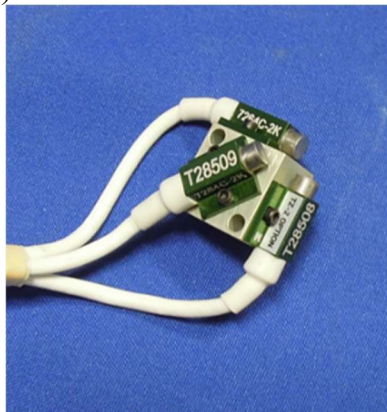

Figure 5-36. Remove three accelerometers from the Tri-Pack Block (SA572-S80M)
- 5.2.33 Remove three accelerometers from the Mid-Spine Accelerometer Block (474-3066) by removing two M1.4 X 0.3 X 3 LG. SHCS per accel (Figure 5-36).